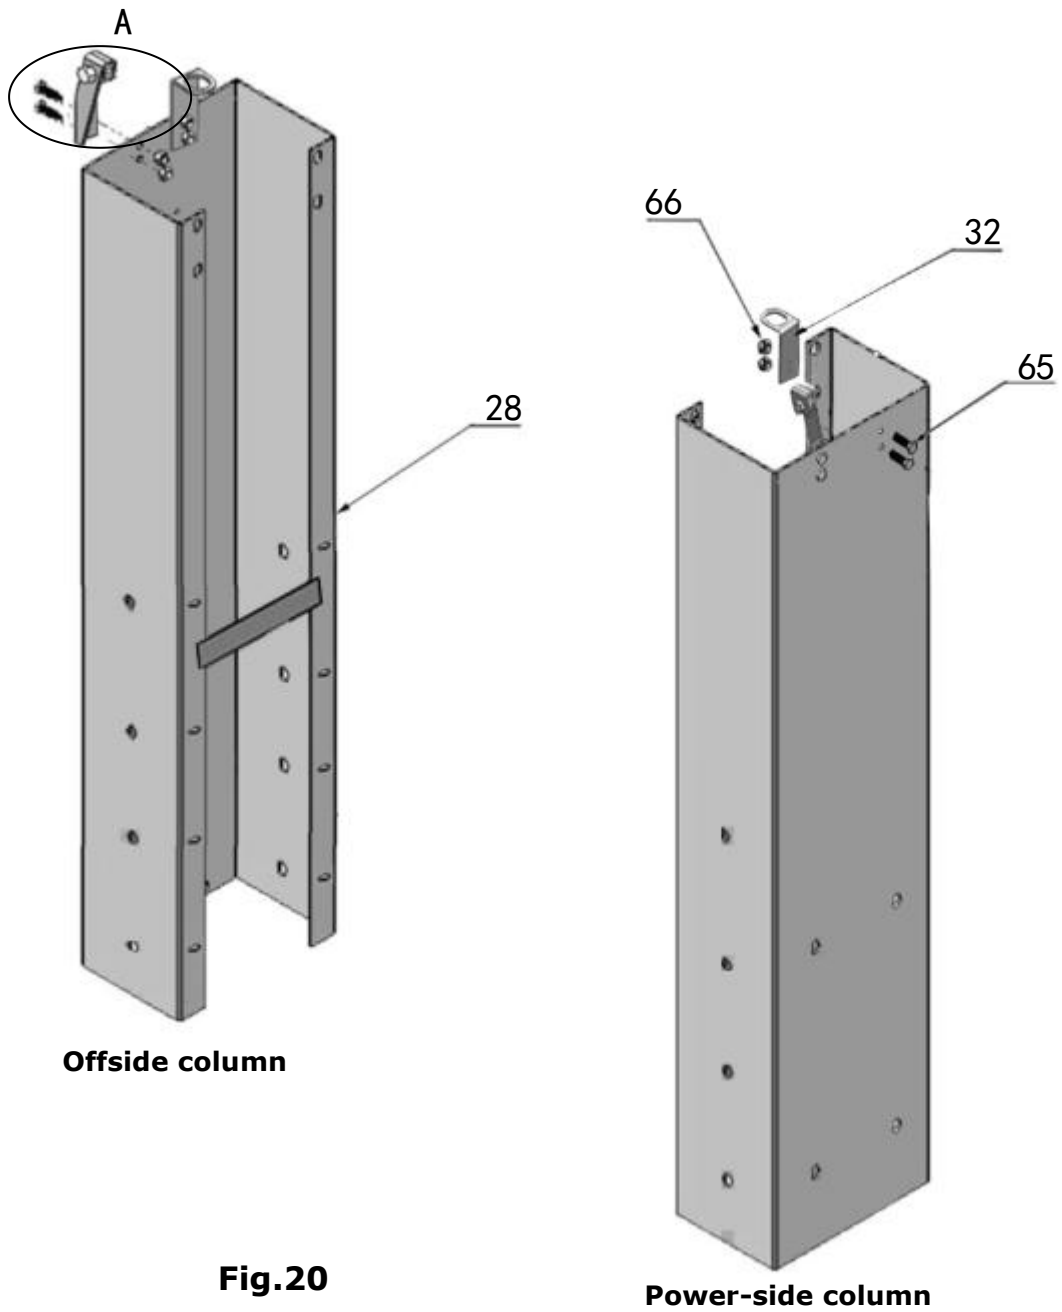

Fig.20
2. OHX-10H Mounting column assemble. Fig. 20.